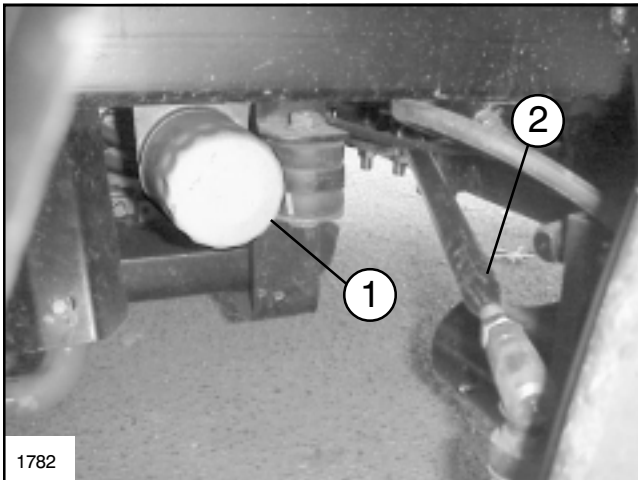

FIG. 16
3. Remove the old Filter (See FIG. 16) and wipe off the Filter Adapter with a clean cloth.